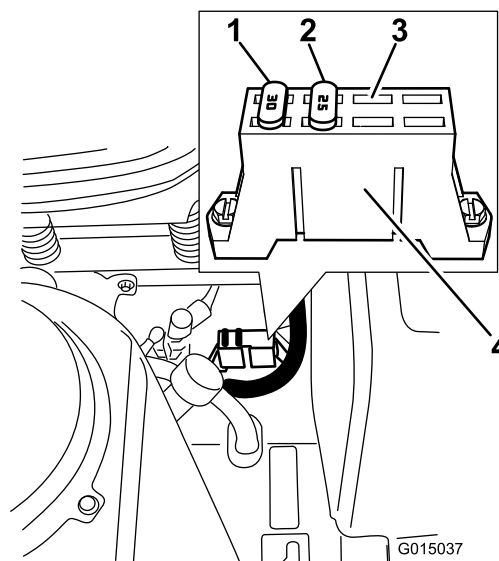

Figure 48
3. Install a new fuse having the same amperage as the fuse that you removed (Figure 48).
1. The fuses are located on right hand console next to the seat (Figure 48).